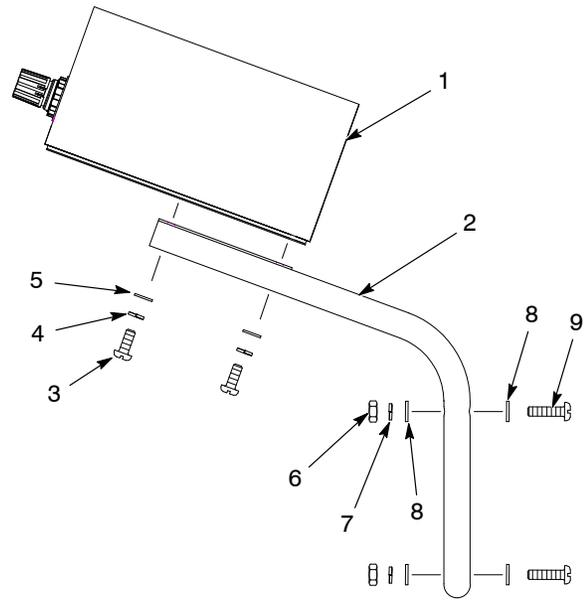

Figure 5 Wall-Mounting Bracket
1. See Figure 5. Using the wall-mounting bracket (2) as a template, drill four 9-mm (0.354-in.) holes in the booth wall.